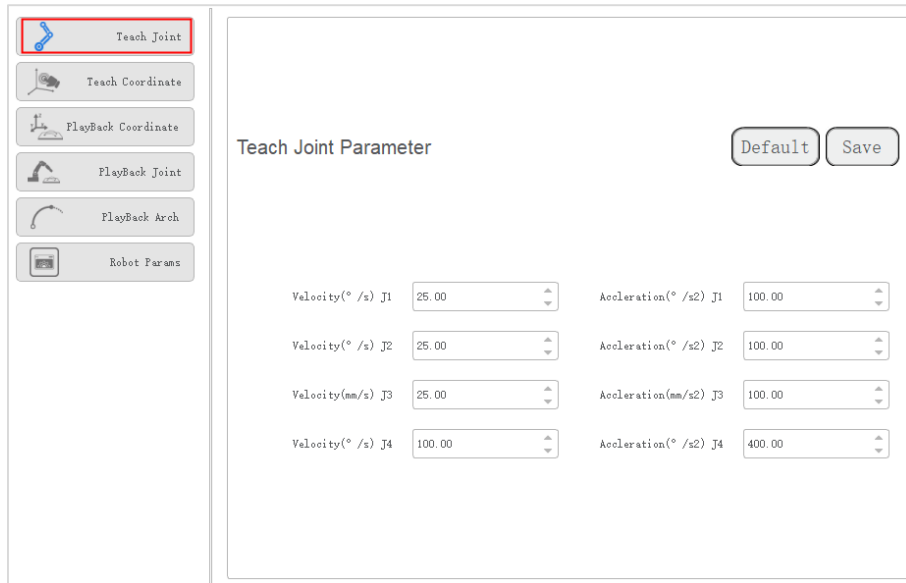

Figure 3.37 Jogging parameters in the Joint coordinate system
- **Teach Joint Parameter:** Set the maximum velocity and acceleration in the Joint coordinate system when jogging a robot. The jogging parameters of a robot in the Joint coordinate system are as shown in Figure 3.37.